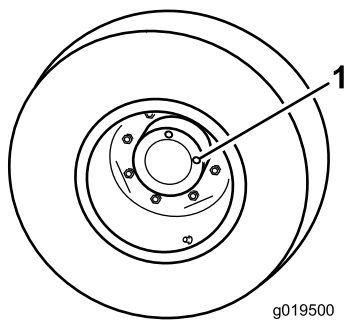

Figure 102
1. With machine on level surface, position the wheel so 1 check plug is at the 12 o'clock position and the other is at 3 o'clock position (Figure 102).
1. Check/drain plug (2)
2. Remove the plug at the 3 o'clock position (Figure 102).